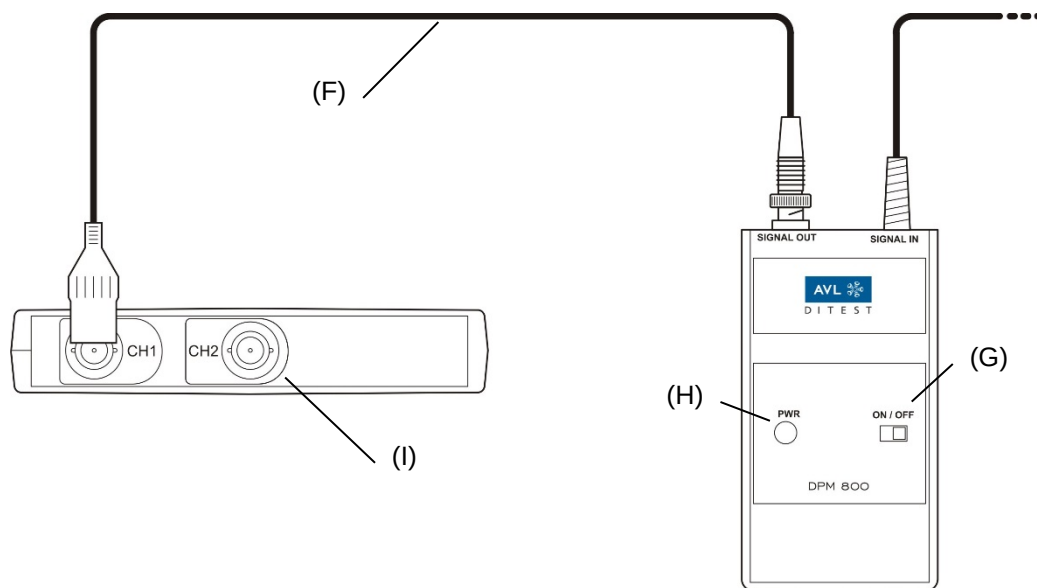

Fig. 3-4
8. Connect the **CH1** connection on the AVL DiScope 802 to the **SIGNAL OUT** socket on the AVL DiTEST DPM 800 power supply unit using the connecting lead (F), see Fig. 3-4.